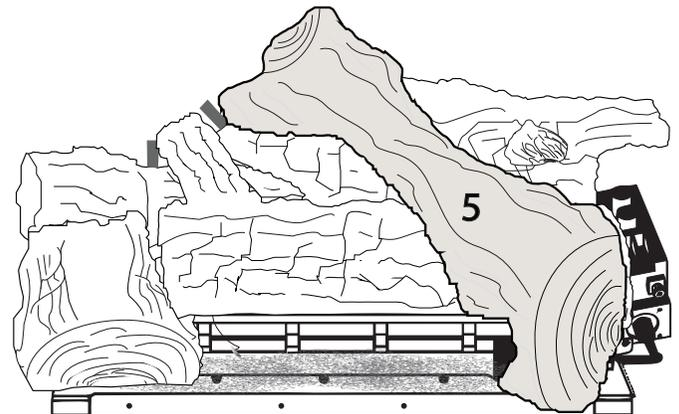

Figure 5.24 - Log #5 Placement
6. Hold Log #5 with the flat sides of the log facing to the right. Place Log #5 so the cut out wraps around the lower right grate tine. Make sure that Log #5 is sitting on the upper left flat area of Log #2. Make sure Log #5 is rotated to the right as far as possible to avoid flame impingement. See Figure 5.24.